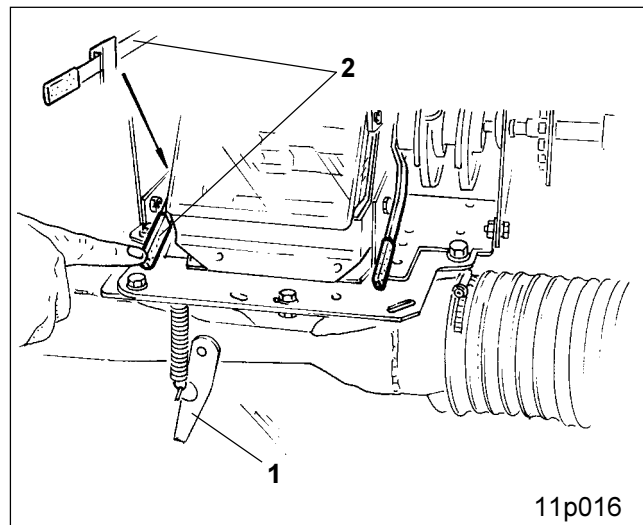

Fig. 50.4
- the injector sluice flap (Fig. 50.4/1) and
For opening the emptying flap behind the metering unit, press lever (Fig. 50.4/2) downwards and arrest.